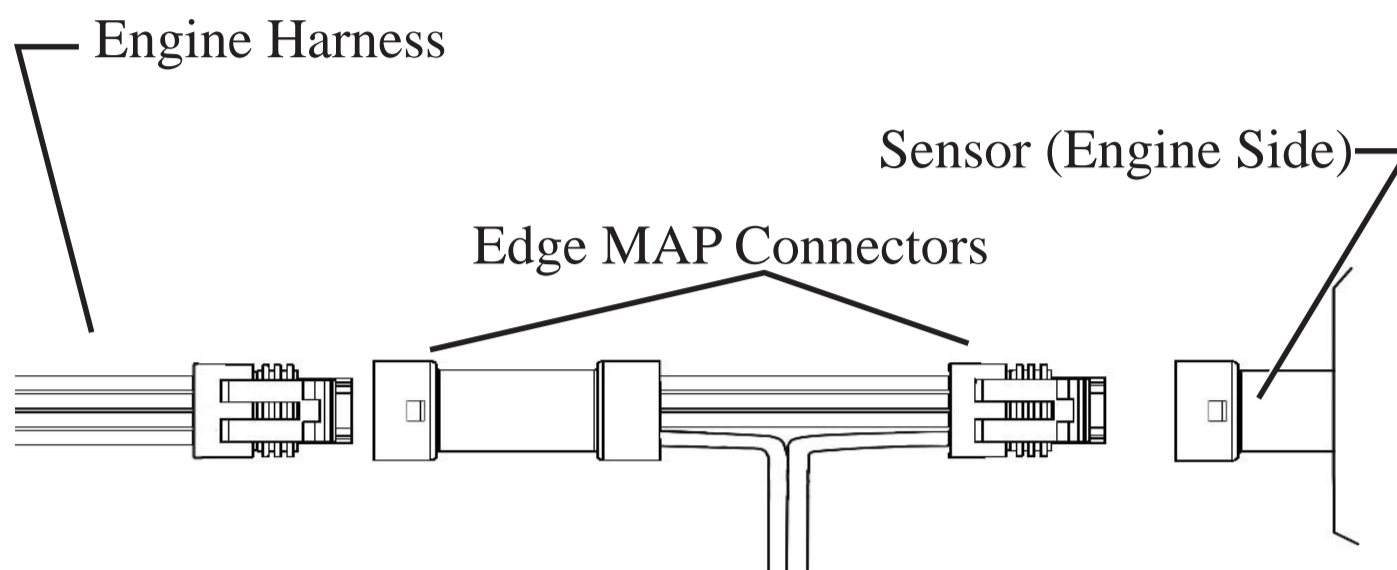

Figure 7 - “T” Assembly
2. Remove vehicle MAP sensor connector and connect the Edge Harness MAP connector “T” (see Figure 7) in between the vehicle harness and the sensor itself.